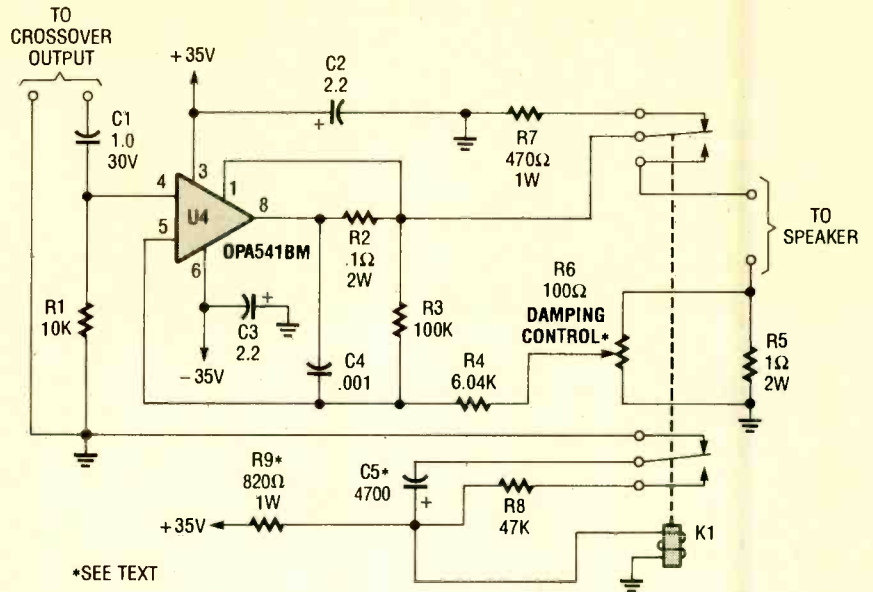

Fig. 10. The subwoofer amplifier comes with a turn-on delay circuit that prevents turn-on and turn-off thump.
**The Amplifier.** The signal from the active crossover needs some amplification before being sent to the subwoofer. An amplifier I "whopped" up (shown in Fig. 10) turned out to be nice for precisely that. In fact, with adequate heat sinking, the amplifier is capable of up to 100 watts into 8-ohms! Although the power op-amp, U4, is expensive (\$40.65), it makes the overall circuit less expensive than if a discrete amplifier were used.